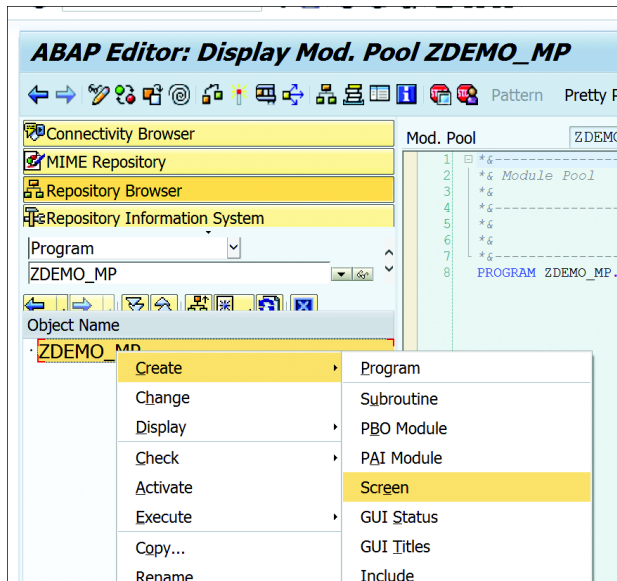

Figure 12.8 Create Screen Menu Path
1. Open the program in Object Navigator. Right-click the program name and select **CREATE • SCREEN**, as shown in Figure 12.8.